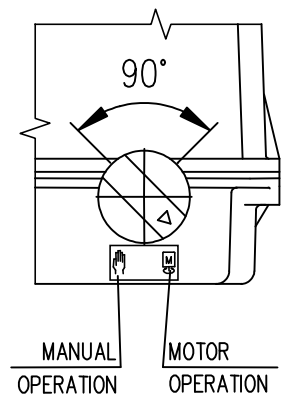

Fig.11
- Turn the button for gear disengagement to the right by 90° (Fig. 11, the button arrow shows the symbol of hand) what disengages the gear in the actuator.